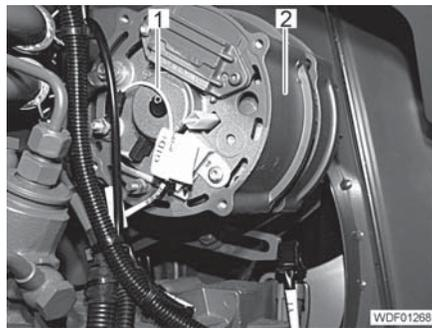

Fig. 47 Generator
- Connect the 3 cables (Fig. 47,1) to the generator (Fig. 47,2).